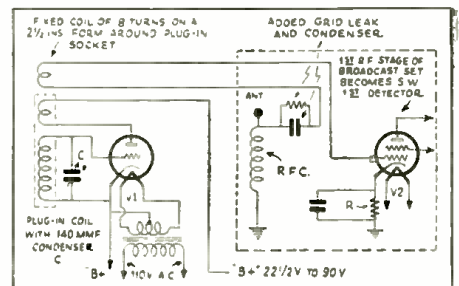

Fig. 4
**A**S MY sketch, Fig. 4, shows, very little needs to be done to any set with an untuned screen-grid first stage, to convert it into an S.-W. superheterodyne. It will, perhaps, be a little harder, if the first stage is a 27.